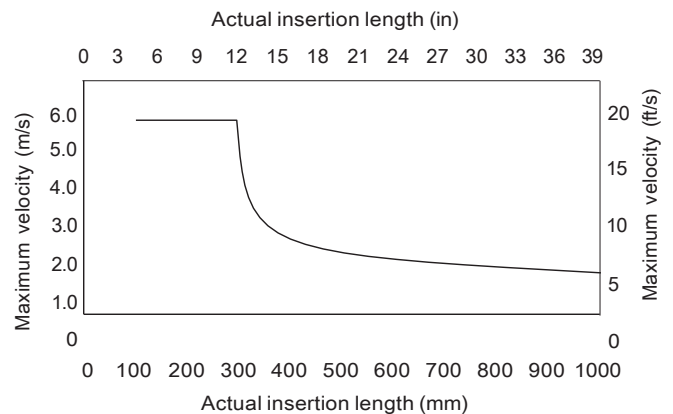

Figure 2 Maximum allowable velocity for different insertion lengths
- The maximum velocity depends upon the actual insertion length. Typical insertion lengths are 0.125 and 0.5 x pipe diameter. Figure 2 is a guide* to the maximum allowable velocity for different insertion lengths.
* Figure 2 is intended as a guide only. Factors that influence the maximum insertion length into the pipe include: flow sensor mounting components (for example, standoffs, bushes and valves) pipeline vibration, fluid vibration and pump noise.